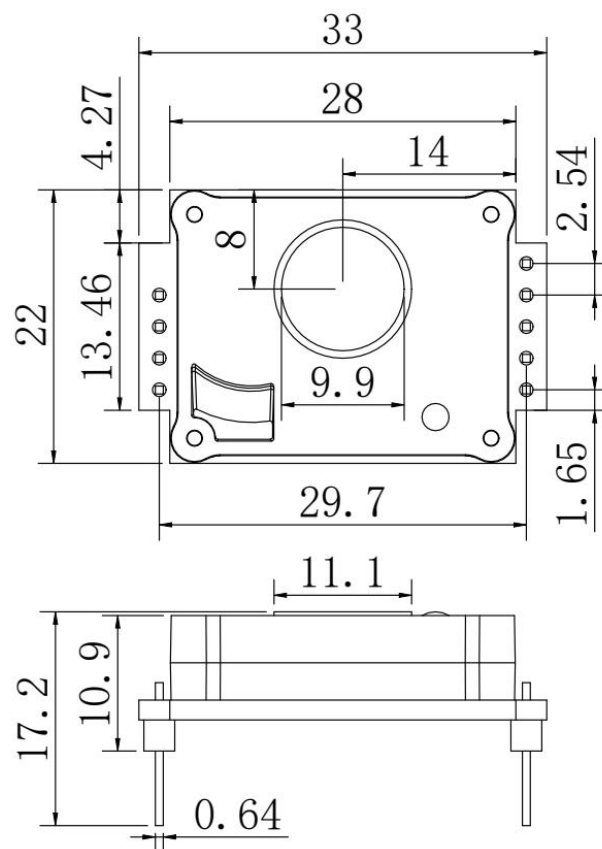

Figure 4. ACD1200 dimension(unit:mm; tolerance: ± 0.5 mm)
- The opening size of the air inlet and outlet of the equipment should not be smaller than the opening size of the sensor air inlet (shown as a circular window with a diameter of 9.9mm in Figure 4).